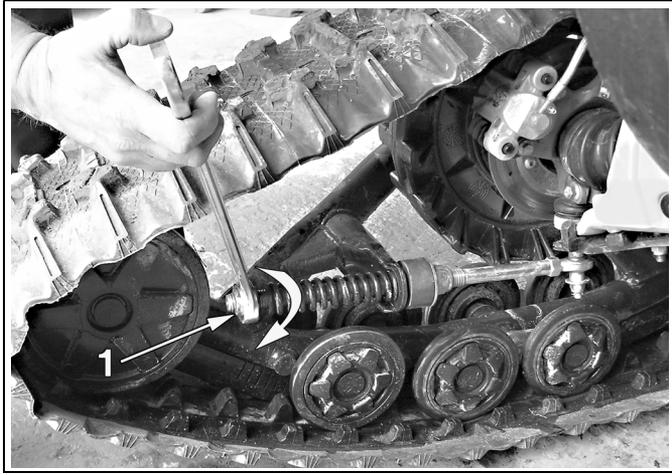

Figure 6
- Turn the nut (1) until it comes in contact with the spring, then compress the spring by turning this nut 1.5 turns (refer to Figure 6).